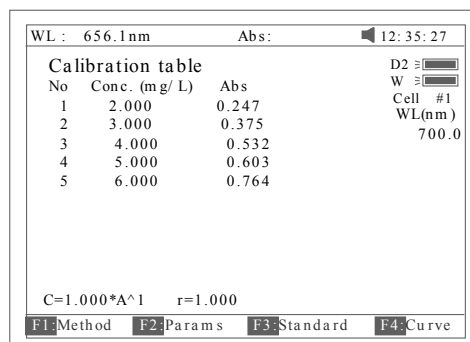

Fig 33
- Pull the first sample cuvette of known concentration into the light path, Press the key **[START]** to get values of standard curve one by one (Fig 33).
- Standard curve built up and saved in the instrument. In Fig 33 press [Load] and then press [\wedge] or [\vee] to select the file with type *****.fit**. At last press [ENTER] to confirm.